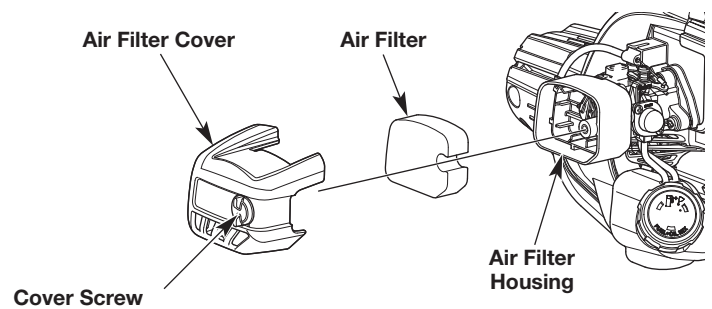

Fig. 18
1. Open the air filter cover by unscrewing the cover screw (Fig. 18).
2. Remove the air filter from the air filter housing (Fig. 18).
6. Reinstall the air filter in the air filter housing (Fig. 18).